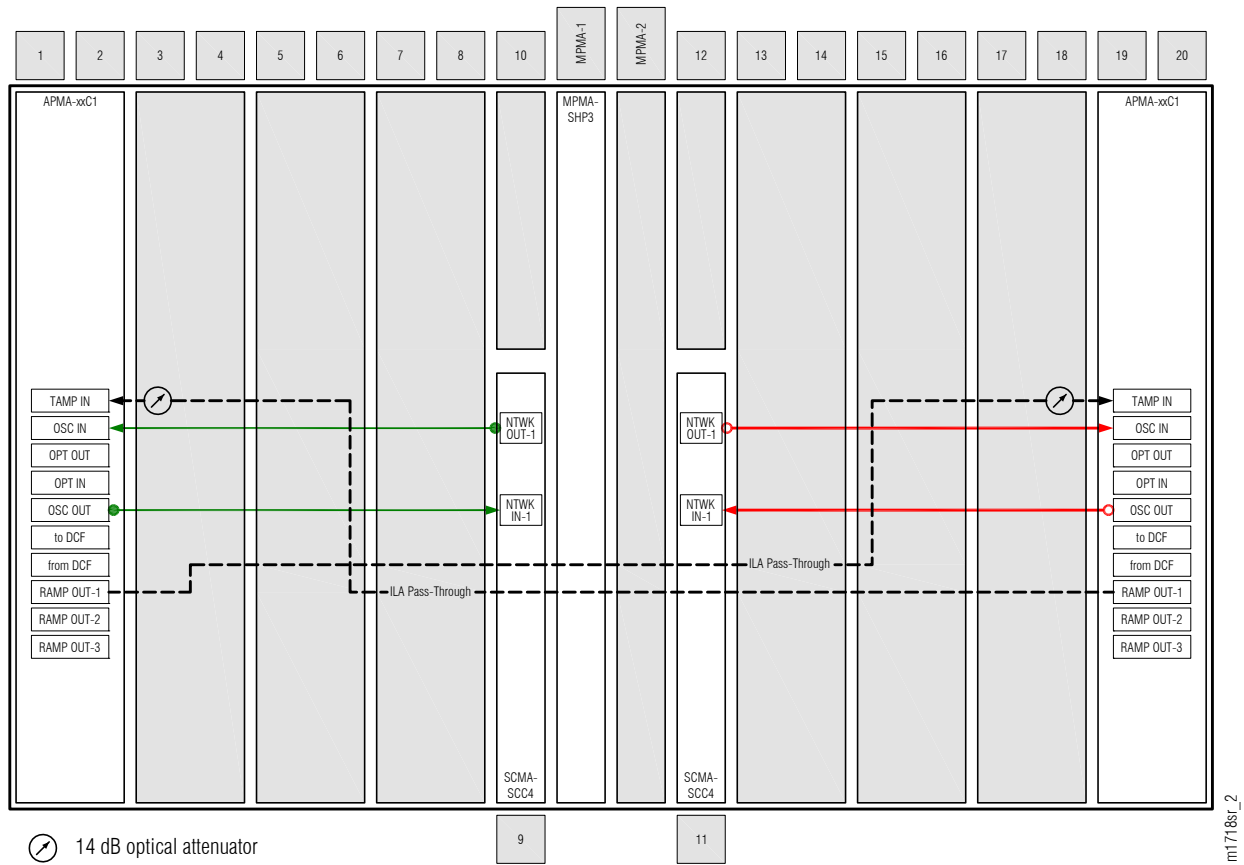

Figure 293: Cabling Before Upgrade (ILA Node)
- a) Disconnect the fiber-optic cable and the 14 dB optical attenuator from connector TAMP IN of the Amplifier plug-in unit located in slot 1. See Figure 293.
- a) Disconnect the fiber-optic cable and the 14 dB optical attenuator from connector TAMP IN of the Amplifier plug-in unit located in slot 19. See Figure 293.